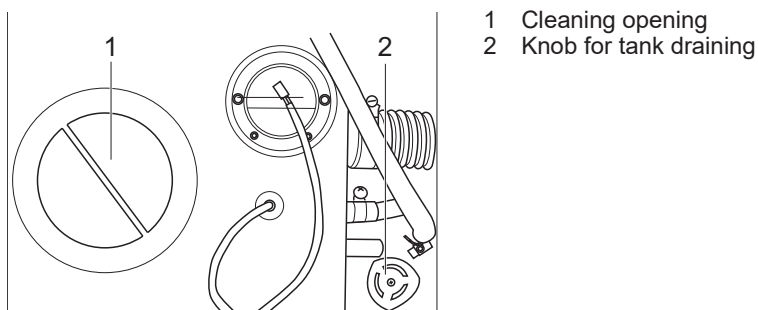
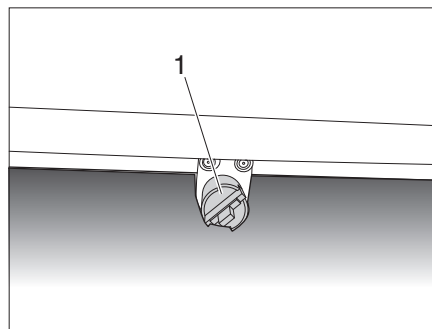
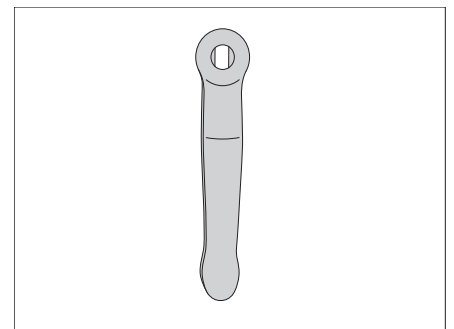
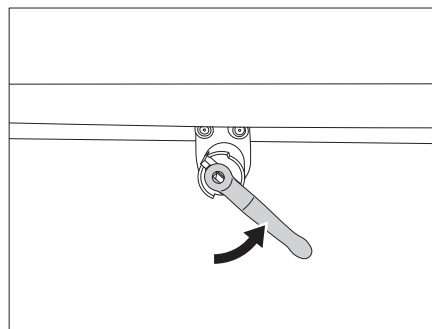

Fig. 61 Fresh water tank
Fig. 63 Drain waste water tank
Fig. 64 Tank key
Fig. 65 Open water tap
- Turn the knob for draining the tank (Fig. 61,1) counter-clockwise until slight resistance can be felt.
- Turn the knob (Fig. 61,1) further counter-clockwise.
- To close the drain turn the knob clockwise until it stops (Fig. 61,1).
- Put the tank key (Fig. 64) on the drain device (Fig. 63,1).
- In order to open the waste water tap, turn the tank key (Fig. 64) a quarter turn anticlockwise (Fig. 65).
- To close the waste water tap, turn the tank key (Fig. 64) back clockwise as far as it will go.
- Ensure that the drainage opening in the inside of the fresh water tank (Fig. 61), the waste water tap (Fig. 63,1) and the safety valve of the hot water boiler are closed.